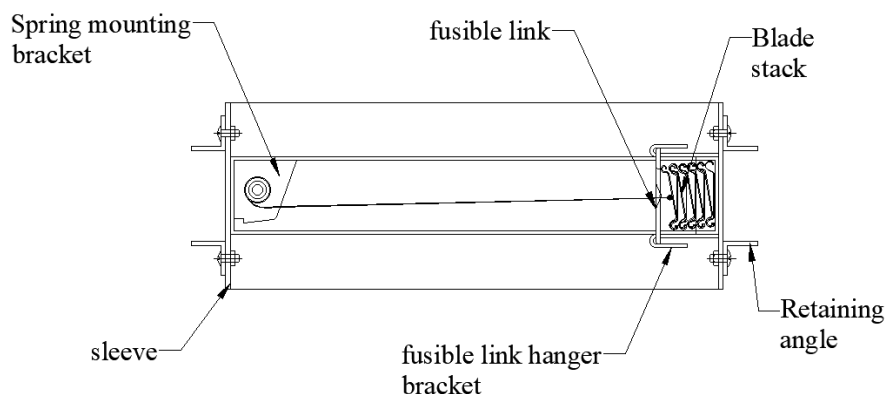

Figure 1: Damper Parts Description
- f) Figure 1 describes the damper parts that will be mentioned throughout this installation manual.